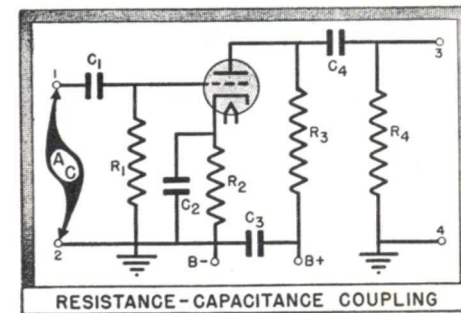

FIG. 18. This basic circuit is the most commonly used type of audio amplifier.
Fig. 18 shows an amplifier circuit that is frequently found in audio or
► However, just because ground points are connected together, don't make the mistake of thinking of currents as wandering about aimlessly. Currents *only* flow in *complete* circuits because of the voltages in those circuits. Thus, in Fig. 18, the current flow from R_4 will be through C_3 ; it will *not* flow through R_1 as there is no path
► The transformers act as "isolators" like the condensers C_1 and C_4 of Fig. 18, in that d.c. has no influence on their secondary circuits. Basically, therefore, we use d.c. to get proper tube operation, but then we usually separate the signal from the d.c. before passing it along.